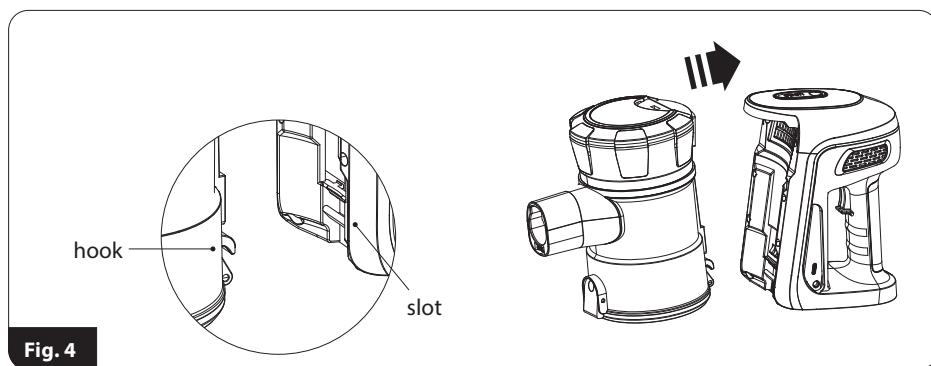

Fig. 4
1. Insert the mesh filter (12) into the dust container – make sure that the three tabs on the outer ring of the filter take their places in the dust container.
2. Place the motor filter (11) on the mesh filter (12).
4. Insert and lock the dust container in the motor module, note that the container at the bottom has a hook which must catch on the corresponding part in the motor module; then press the container against the motor module (fig.4).